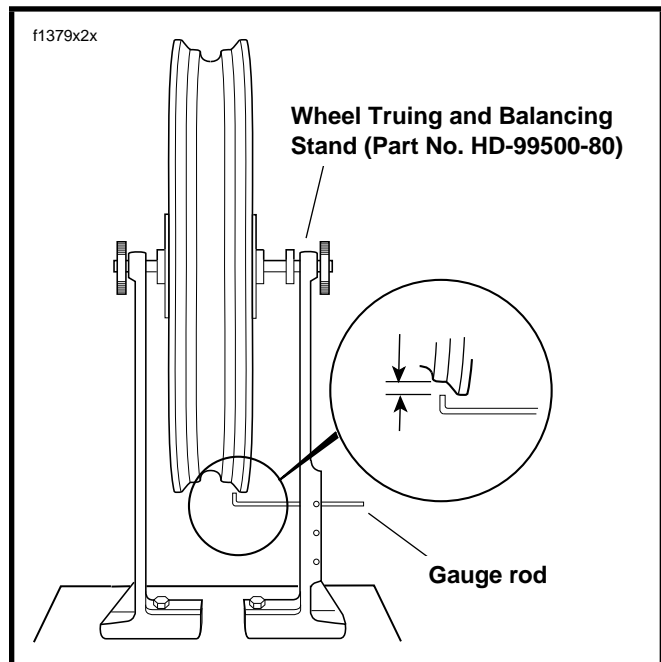

Figure 2-12. Checking Cast Rim Radial Runout
1. See Figure 2-12. Install truing arbor in wheel hub and place wheel in **WHEEL TRUING AND BALANCING STAND (Part No. HD-99500-80)**.